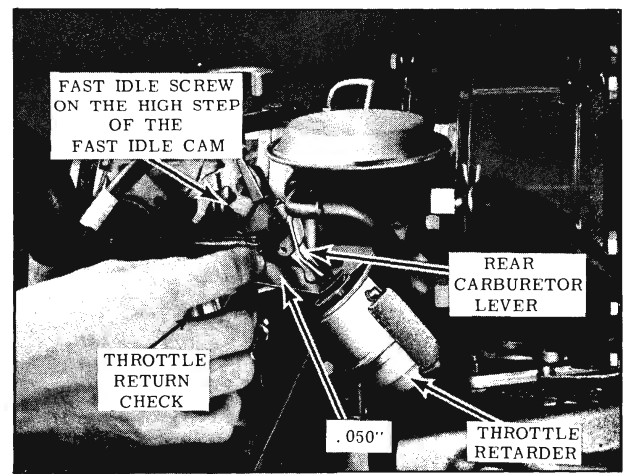
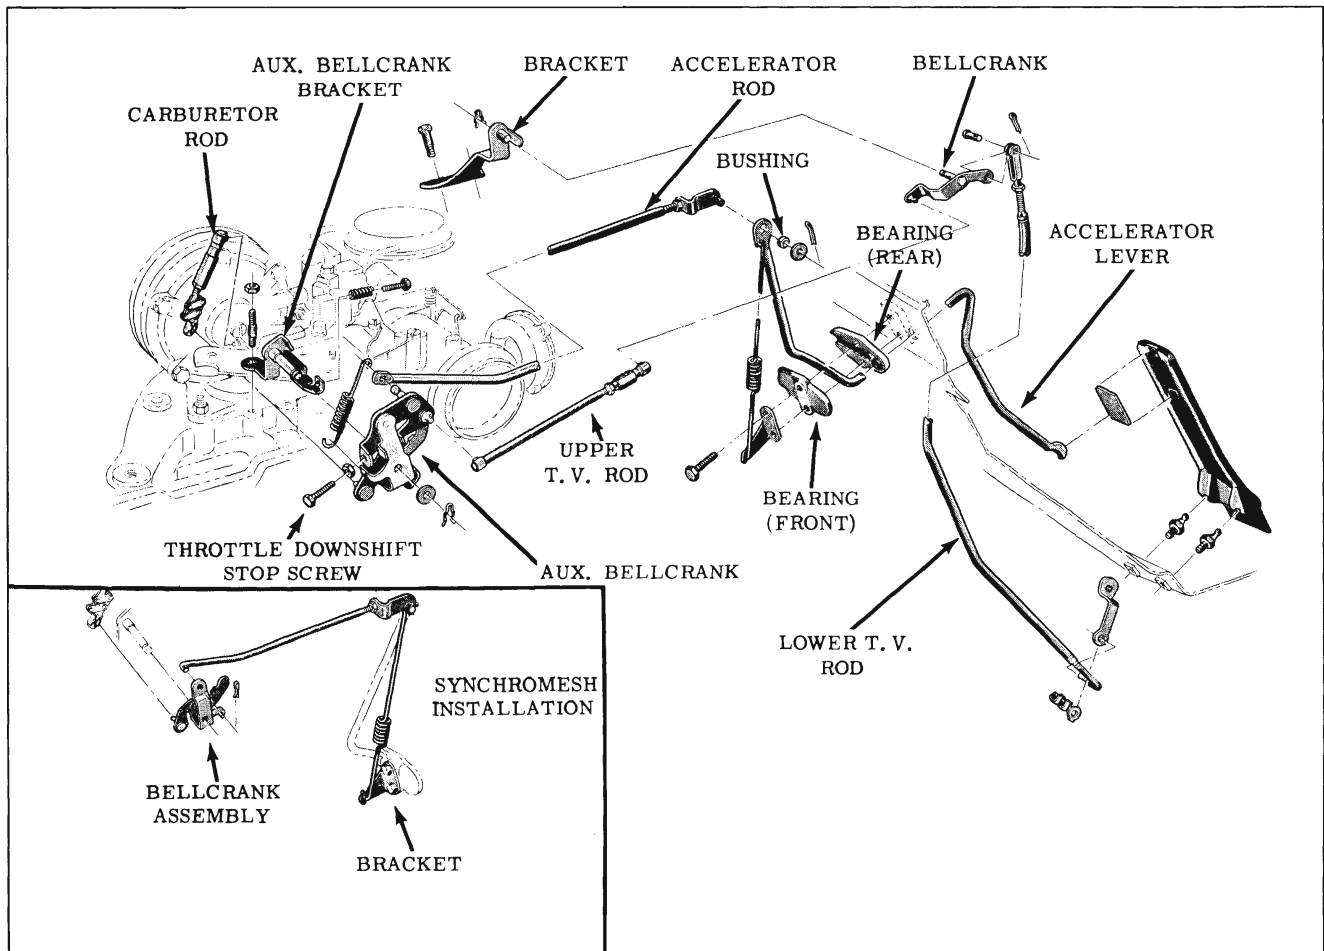

Fig. 3-334 Throttle Return Check Adjustment
Fig. 3-335 RC Carburetor Throttle Linkage
- 15. Adjust the throttle return check to .050" with the fast idle screw positioned on the high step of the fast idle screw. (Fig. 3-334)
- 16. Loosen the throttle downshift stop screw lock nut and back off stop screw approximately six (6) turns. With the accelerator lever, move the throttle to wide open and over travel the linkage to point of maximum transmission
T.V. lever travel. (Fig. 3-335)